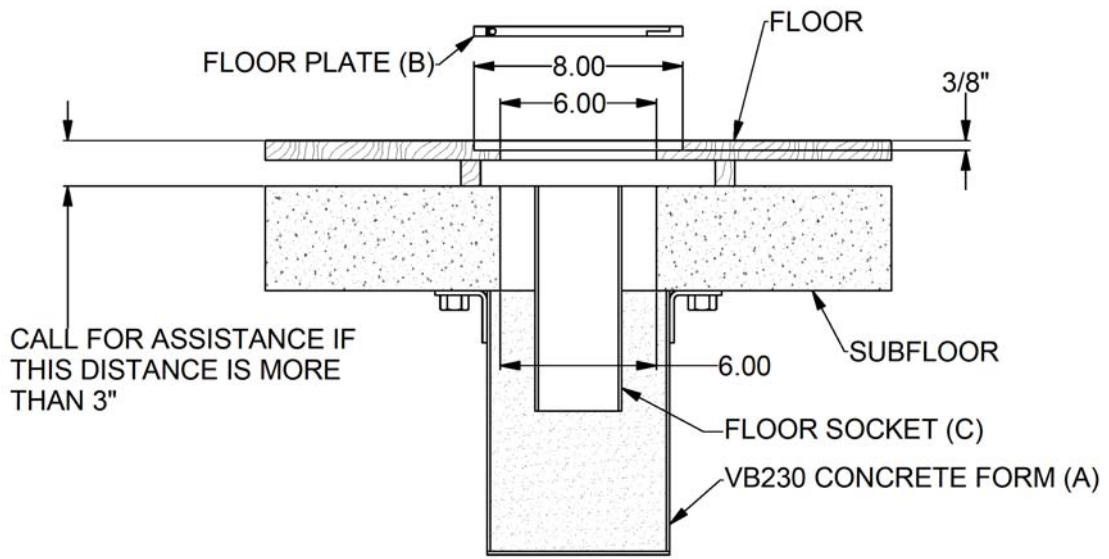

FIGURE 1
2. If it is determined that the locations of the *Floor Sockets* (C) selected will allow for installation of a *VB230 Concrete Form* (A) below the floor, use the *Floor Plate* (B) and pencil to draw a circle on the finished floor at each *Floor Socket* (C) location.
3. Measure the distance from the top of the floor to the subfloor surface below. If the distance is greater than 3" you will not be able to use *VB230 Concrete Form* (A) without field modifications.
4. Cut a hole through the wood floor that is 2" **SMALLER** in diameter than the circle drawn from instruction #2. This should be approximately 6" in diameter. **CAUTION:** If you cut the hole on the larger pencil circle it will not be possible to install the *Floor Plate* (B) properly. You may need to rout relief in the wood to accommodate *Floor Socket* (C) installation. See Figure 1.
5. Drill or break out a 6" diameter hole through the subfloor. Use of a rotary hammer drill and chisel or core drill on concrete subfloors is recommended. If using a wet core drill, all water must be immediately removed to avoid floor damage. See Figure 1.
6. Route an accurate recess on the wood floor that allows flush and clean installation of the *Floor Plate (B)*. **MAKE SURE TO FOLLOW THE INSTALLATION INSTRUCTIONS PROVIDED WITH THE FLOOR PLATE.** This recess will be approximately 3/8" deep. Take caution in this step to avoid a sloppy, oversized or over depth recess. Optional Bison VB23IK installation templates will help in this process. See Figure 1.
7. Follow the instructions provided with the *Floor Plate (B)* and *Floor Socket (C)* to assemble the *Floor Plate (B)* to the *Floor Socket (C)*.
8. Install duct tape over the top of the *Floor Socket (C)* to avoid grout entering the *Floor Socket (C)* during installation.
9. Set the *Floor Socket (C)* and *Floor Plate (B)* assembly into the prepared hole to insure that both the *Floor Socket (C)* and the *Floor Plate (B)* fit neatly. Rework openings if necessary.
10. With the *Floor Socket (C)* assembly properly sitting in the hole, inspect the installation area from the lower level or crawl space.
11. Install *VB230 Concrete Form (A)* to the underside of the floor with the grout retainer centered on the *Floor Socket (C)* assembly. Make sure to use the proper sized anchors or attachment hardware. See Figure 1.
12. Fill the hole and *VB230 Concrete Form (A)* with premixed, non-shrink grout to within approximately 4" of the playing surface. Using a pole, vibrate the grout to allow settling.
13. Install socket assembly into the grout filled retainer. You will need to work the assembly into the hole to allow the grout to surround the *Floor Socket (C)*. If grout does not flow to the top of the hole in the original sub-floor remove assembly and add more grout.
14. Carefully follow the instructions included with *Floor Plate (B)* to attach *Floor Plate (B)* to the floating wood floor to eliminate *Floor Socket (C)* floating when the grout is curing.
15. After grout is set remove all hardware connecting the *Floor Plate (B)* to the wood floor and *Floor Socket (C)*. Re-install *Floor Plate (B)* to the wood floor with hardware provided. This allows the *Floor Plate (B)* to move independent of the *Floor Socket (C)* when humidity changes in the gym.